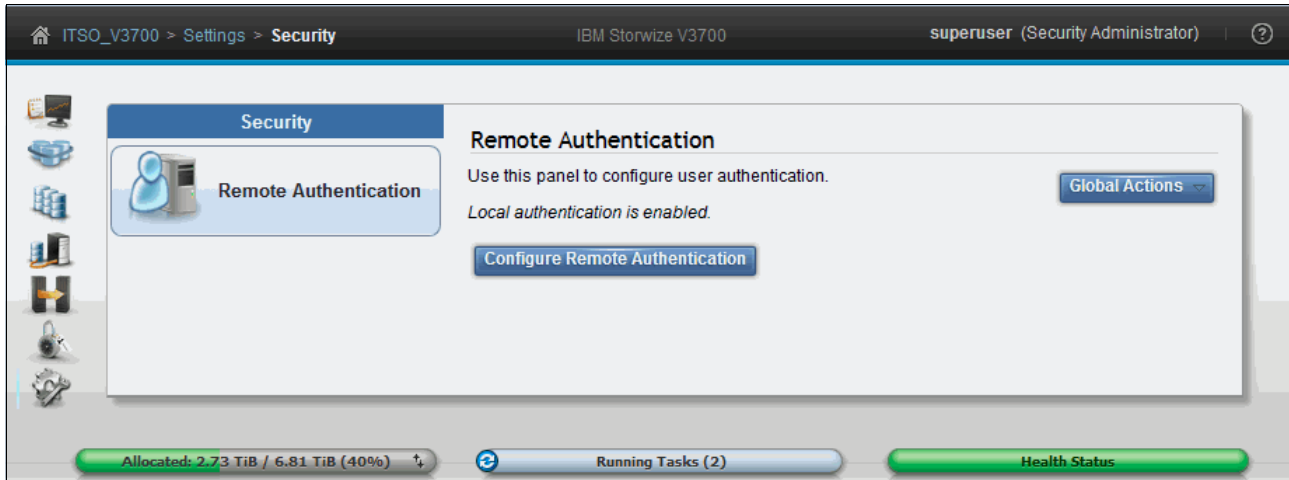

Figure 3-108 Security pane
1. Click **Configure Remote Authentication**, as shown in Figure 3-108, to open the wizard.